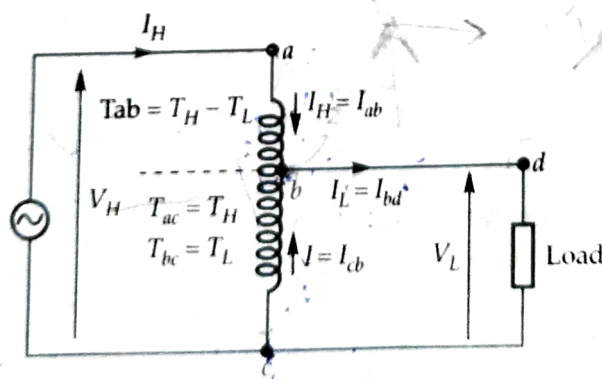

Fig. 2.1 Step-down autotransformer.
Consider a single winding abc of Fig. 2.1. The terminals a and c are the high-voltage terminals. The low-voltage terminals are b and c where b is a suitable tapping point. The portion bc of the full winding abc is common to both high-voltage and low-voltage sides. The winding bc is called the *common winding* and the smaller winding ab is called the *series winding* because it is connected in series with the common winding.
A *step-down autotransformer* is one in which the primary voltage is greater than the secondary voltage. The source voltage V_H is applied to the full winding abc and the load is connected across the secondary terminals bc . This arrangement is called the *step-down autotransformer* as shown in Fig. 2.1.
1. There is a direct connection between the high-voltage and low-voltage sides. In case of an open circuit in the common winding bc (Fig. 2.1), the full primary voltage would be applied to the load on the secondary. This high voltage may burn out or seriously damage the equipment connected to the secondary side.